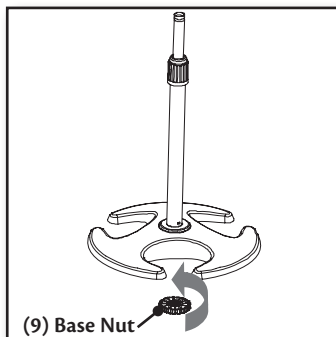

Figure 8.
2. Secure the Telescope Rod (7) by screwing the Base Nut (9) onto it from underneath the base. **Figure 8.**